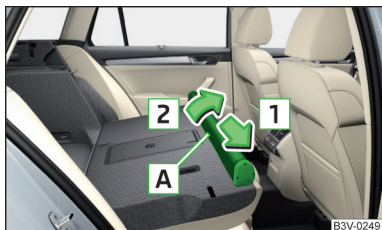

Fig. 165
- ▶ Push the housing **A** in the direction of the arrow **1** and remove it from the mountings in the direction of the arrow **2** » Fig. 165.